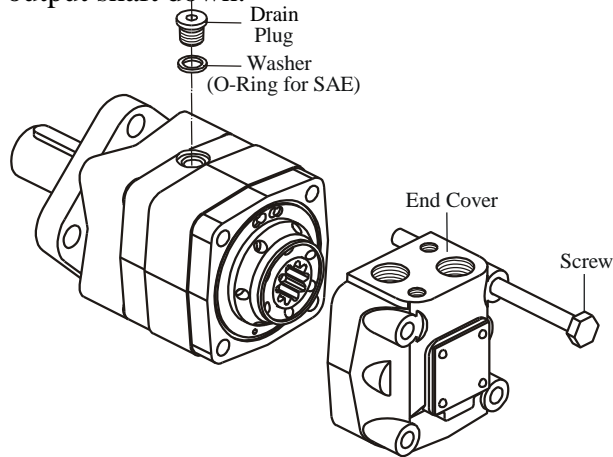

Fig.1
3. Unscrew screws using a S17 torque wrench. (see Figure 1)